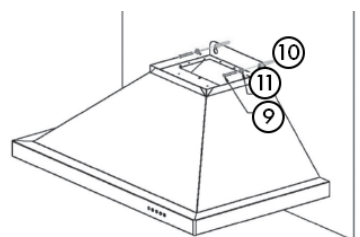

Figure 2
2. Drill holes into each mounting point with a suitable sized bit. Tap 2 anchors (Item No. 10) into the holes, then fasten 2 mounting screws (Item No. 9) and washers (Item No. 11), making sure to leave the screw heads out roughly 1/4" (6 mm) in order to mount the hood. *Figure 2*
3. Using at least two people, mount the main body of the hood onto the two screws and slide into place. *Figure 2*